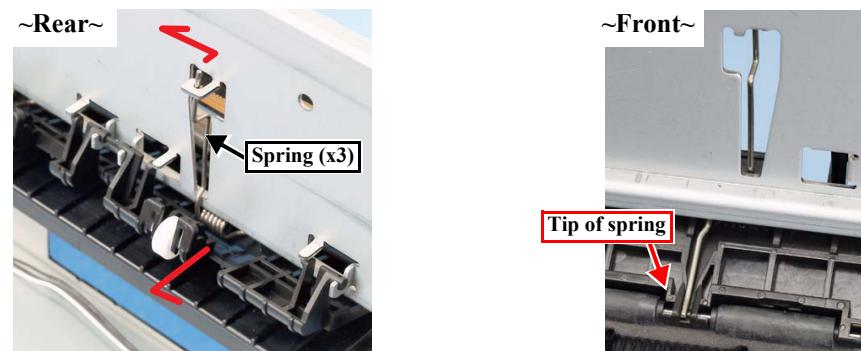

Figure 4-80. Removing the Springs
4. Remove torsion springs (x3) at the rear of the printer. (Fig. 4-80)
Install the springs properly, while paying attention to the tip position of each spring. (Fig. 4-80)